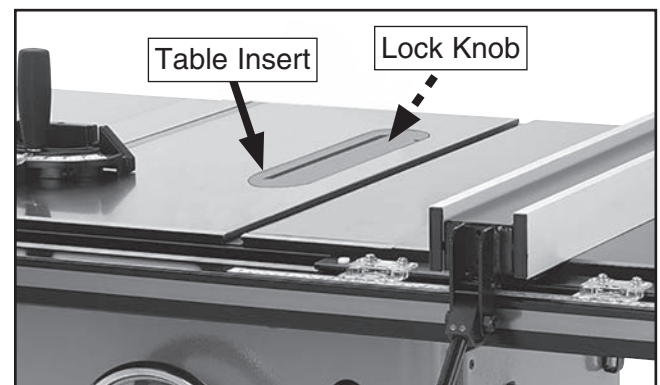

Figure 22. Location of table insert and lock knob (blade removed for clarity).
2. Remove table insert (see **Figure 22**).
3. Raise blade all the way up, then locate blade assembly lock knob (see **Figure 22**).